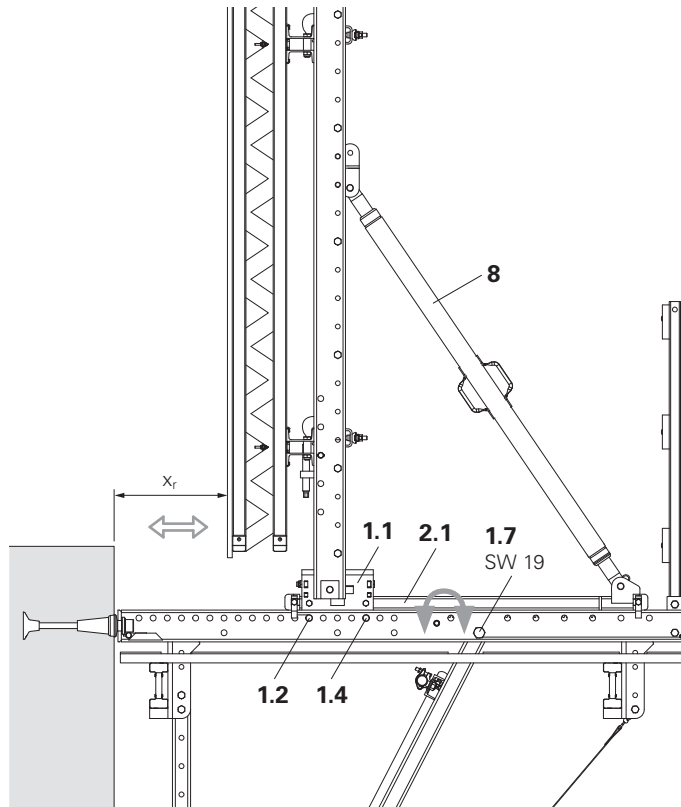

Fig. A4.05
– Secure Fitting Pins with cotter pins. (Fig. A4.05)